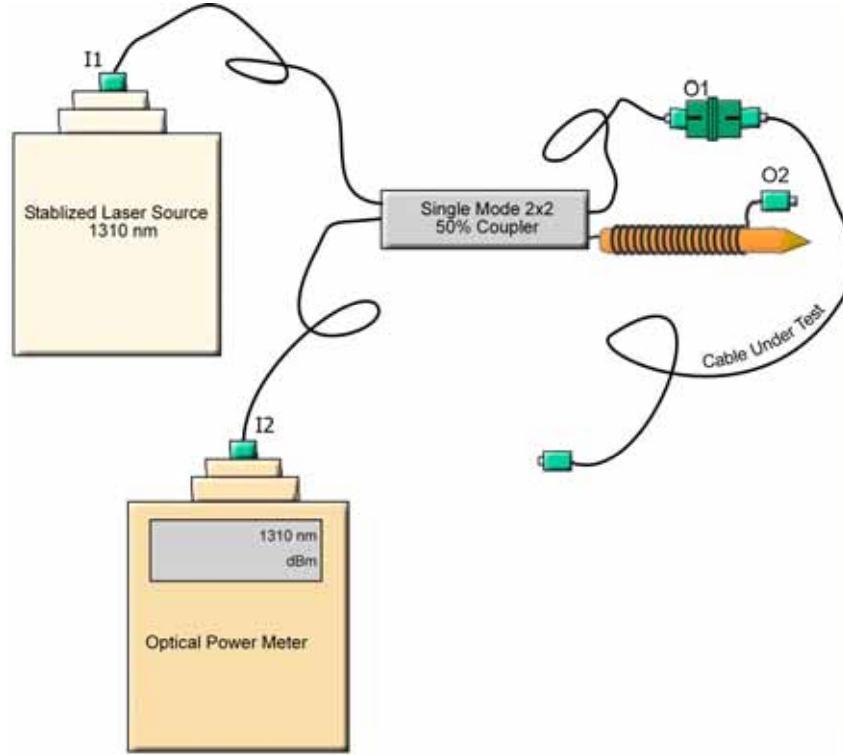

Figure 7-5. Test Procedure Connections
6. Connect the laser to port **I1** of the coupler as shown in Figure 7-5.
7. Connect the Power Meter to port **I2** of the coupler as shown in Figure 7-5.